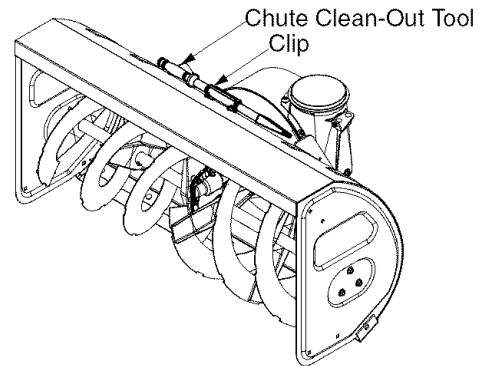

Figure 12
The clean-out tool is conveniently fastened to the rear of the auger housing with a mounting clip. See Figure 12 .
3. Remove the clean-out tool from the clip which secures it to the rear of the auger housing. See Figure 12.